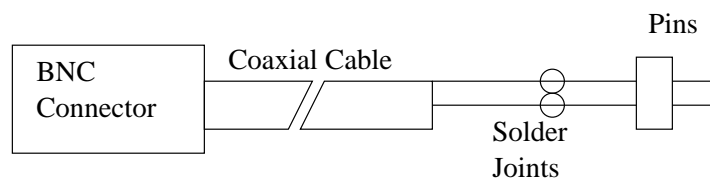

Figure 7: Test cable used for testing completed assemblies.
3. Connect the corresponding pins to the open channel of the scope (e.g. channel 2). To do this, one may need to build a special connection cable. Make a coaxial cable with a BNC connector on one end and two pins on the other as shown in figure 7.